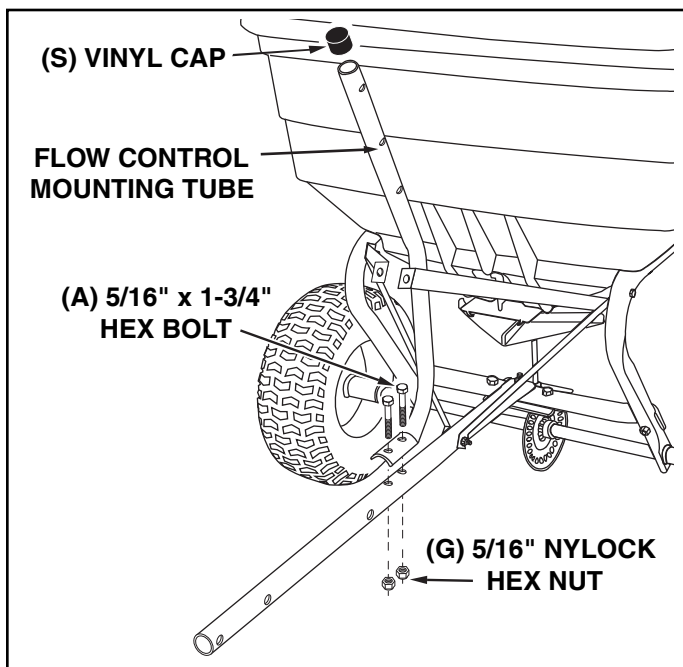

FIGURE 5
12. Assemble the flow control mounting tube to the hitch tube using two 5/16" x 1-3/4" hex bolts (A) and 5/16" nylock hex nuts (G). **DO NOT TIGHTEN YET.** See figure 5.
13. Assemble the vinyl cap (S) onto the flow control mounting tube. See figure 5.